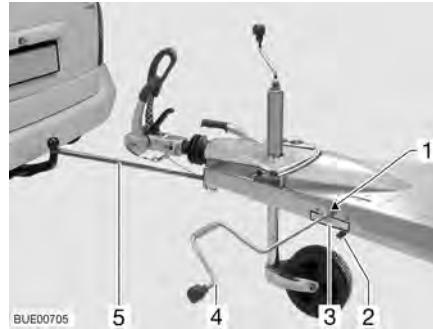

Fig. 5 Hitching device Easy-Pull
- Push the locking lever (Fig. 5,2) to the open position.
- Pull the belt with the hook (Fig. 5,5) out towards the front, lay it around the ball neck of the caravan coupling of the towing vehicle and secure it.
- Push the locking lever (Fig. 5,2) to the close position.
- Attach the crank for the corner steadies of the caravan (Fig. 5,4) to the hexagon nut (Fig. 5,1) of the cranking mechanism and start cranking. Crank in the rotational direction indicated on the label (Fig. 5,3).